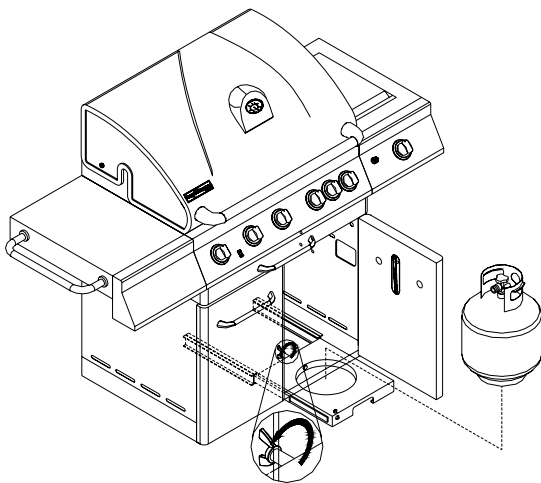

Figure 1
1. Put the gas tank into the gas tank tray. Then tighten the gas tank retention kit for securing the gas tank as shown in the figure 1 below.